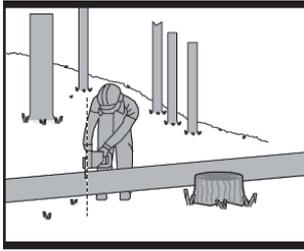

Fig. 28
- When bucking on a slope always stand on the uphill side of the log, as illustrated. When “cutting through”, to maintain complete control release the cutting pressure near the end of the cut without relaxing your grip on the chain saw handles. Don’t let the chain contact the ground. After completing the cut, wait for the saw chain to stop before you move the chain saw. Always stop the motor before moving from tree to tree. (See Fig. 28)